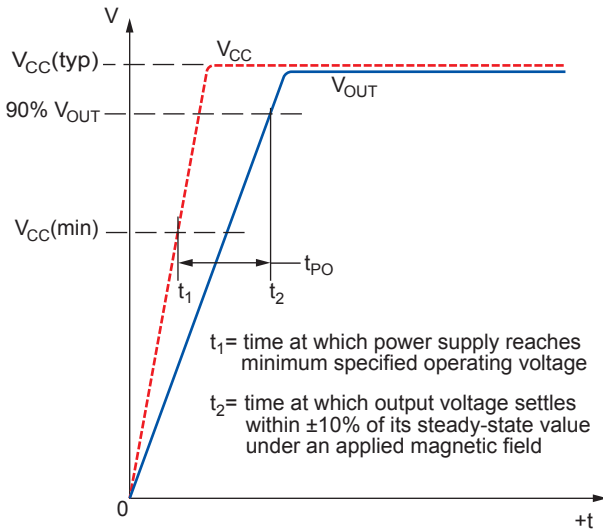

Figure 1: Definition of Power-On Time,  $t_{PO}$
**Power-On Time.** When the supply is ramped to its operating voltage, the device output requires a finite time to react to an input magnetic field. Power-On Time,  $t_{PO}$ , is defined as the time it takes for the output voltage to begin responding to an applied magnetic field after the power supply has reached its minimum specified operating voltage,  $V_{CC}(\text{min})$ , as shown in Figure 1.